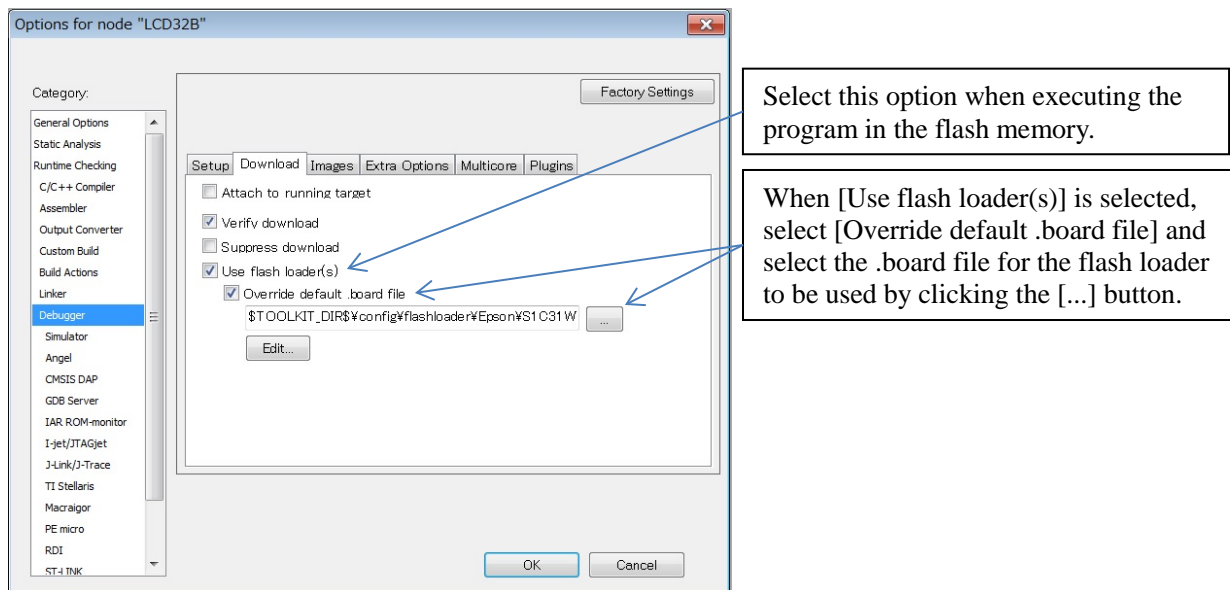

Figure 2.3.5.1 Flash Loader Setting
- (1) Select the [Project] > [Option] in the IAR EWARM menu.
- (2) Select the [Debugger] in the [Category] list on the [Options for node “{project}”] dialog (Figure 2.3.5.1).
- (3) Select the [Download] tab (Figure 2.3.5.1).
- (4) Disable the [Use flash loader(s)] checkbox (Figure 2.3.5.1).
- (4) Enable the [Use flash loader(s)] checkbox (Figure 2.3.5.1).
- (5) Enable the [Override default .board file] checkbox (Figure 2.3.5.1).
- (6) Click the [...] button and select “S1C31D01_int.board” as a board file (Figure 2.3.5.1).